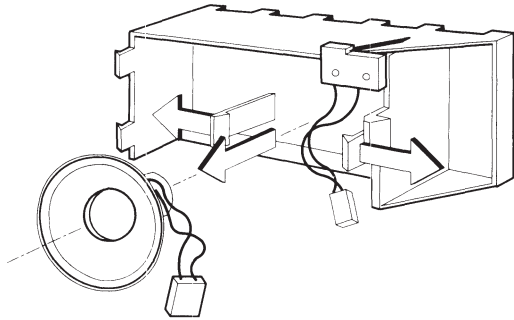

Figure 7-33. Removing the Speaker Assembly.
5. Carefully remove the speaker assembly from the speaker/board guide assembly (Figure 7-33).